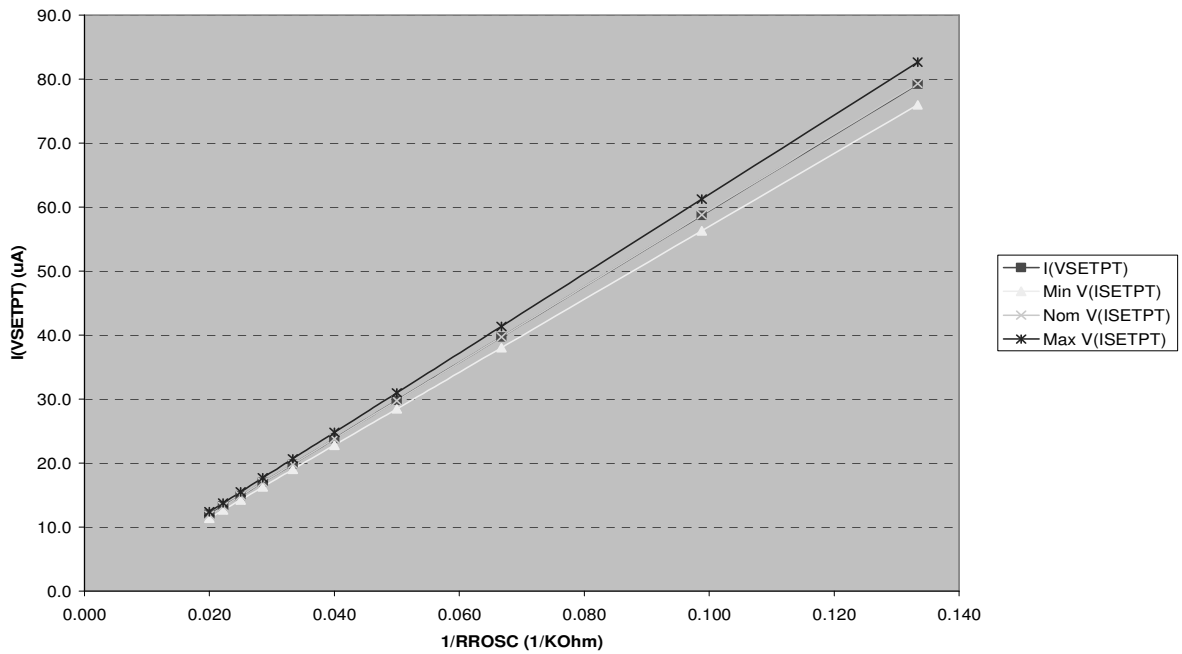

Figure 19: ISETPT with RO SC.
A resistor between VSETPT pin and VDAC is used to create output voltage offset VO_NLOFST, which is the difference between VDAC voltage and output voltage at no load condition. RVSETPT is determined by (26), where IVSETPT is the current flowing out of VSETPT pin as shown in Figure 19.
From Figure 19, the bias current of VSETPT pin is 30 uA with $R_{OSC}=17.4 \text{ k}\Omega$.